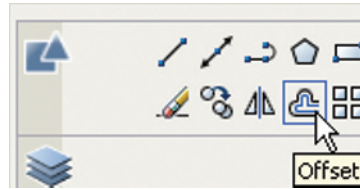

Fig. 5.12 The **Offset** tool from the **2D Draw** control panel
2. Call the **Offset** tool – *left-click* its tool icon in the **2D Draw** control panel (Fig. 5.12), or *pick* the tool from the **Modify** toolbar, or *pick* the tool name in the **Modify** drop-down menu, or *enter o* or **offset** at the command line. The command line shows: